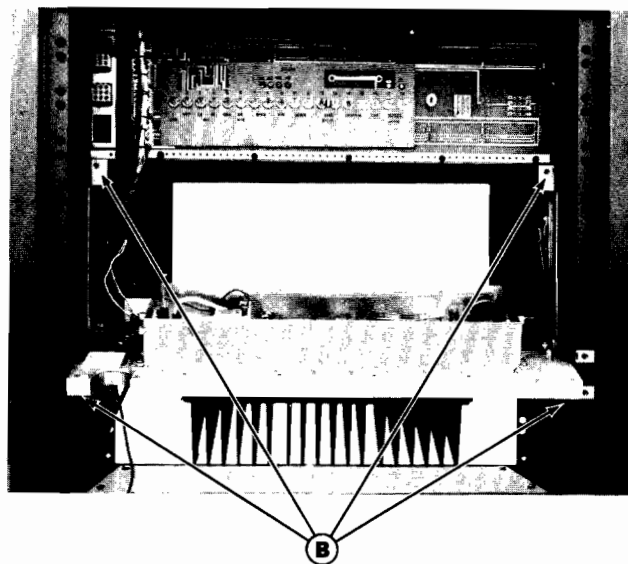

Figure 6 - Access to Power Amplifier
1. Remove the top two screws (B) on the Intermittent or Continuous Duty Power Amplifier. Refer to Figure 6.